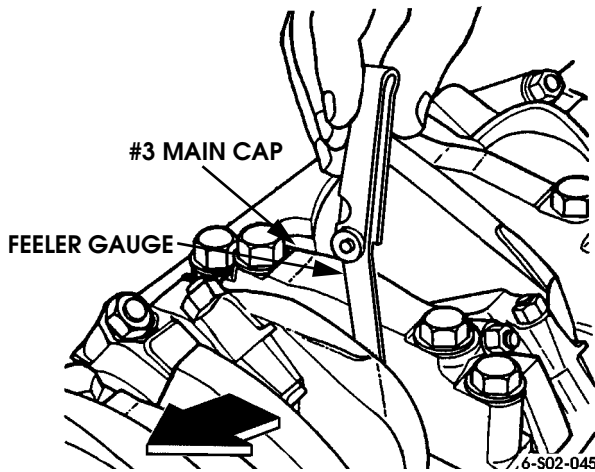

Figure 2-181: Measuring Crankshaft End Play
- Pry and hold crankshaft forward. Measure clearance between crankshaft and #3 main bearing with feeler gauge (Figure 2-181). Clearance should be 0.004-0.010 in. (0.10-0.25 mm). If clearance is incorrect, thrust bearing is incorrect size or not seated, or crankshaft thrust surface is worn. Correct as necessary. If clearance is OK, continue with assembly.